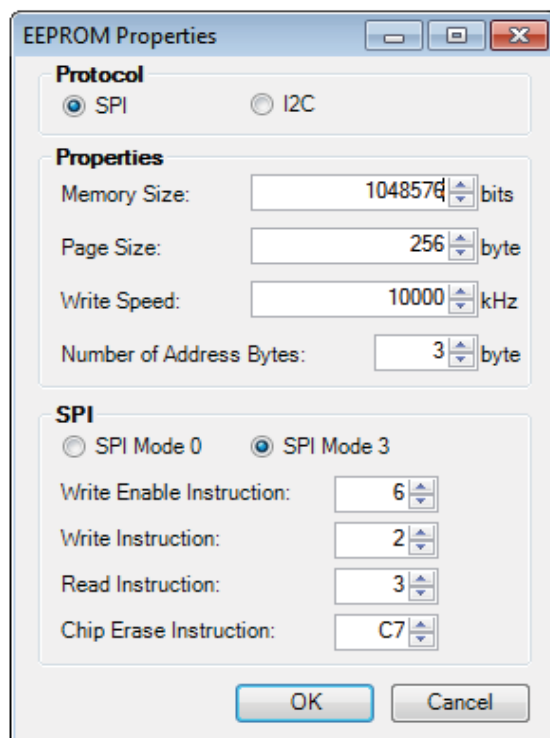

Figure 76. EEPROM Properties Window and Required Settings
7. An **EEPROM Properties** dialog box appears. Enter the appropriate values into the text fields as shown in Figure 76, then click **OK**.